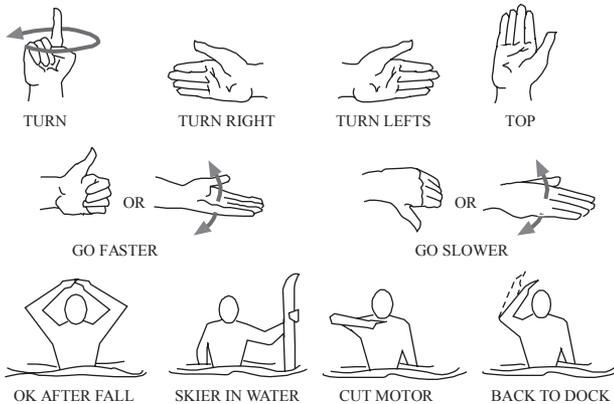

FIGURE 2-12 SKIING SIGNALS
3. Have a second person aboard to observe the skier and inform the driver about the skier's hand signals (Figure 2-12). The driver must give full attention to operating the boat and the waters ahead.